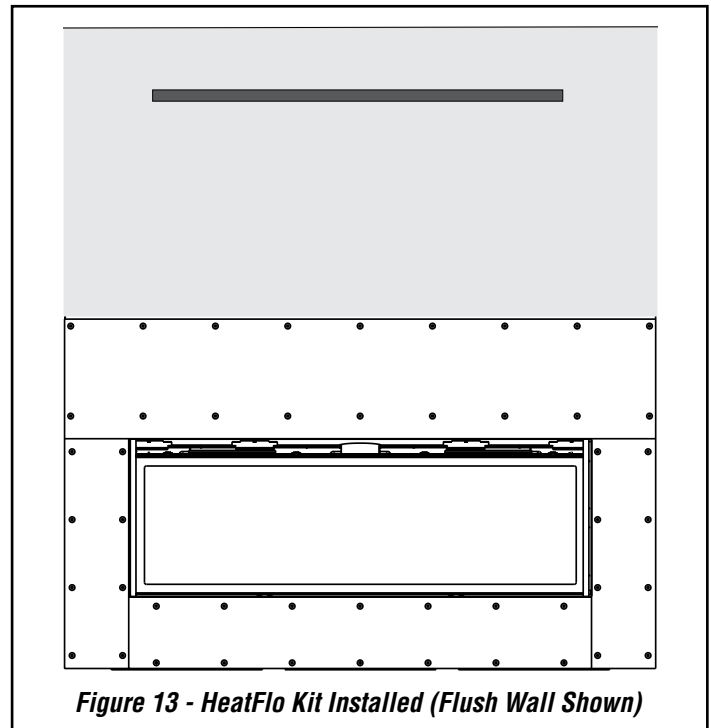

Figure 13 - HeatFlo Kit Installed (Flush Wall Shown)
1. Using 1" self drill bugle drywall screws (supplied), install non-combustible fireboard at bottom, sides and top of fireplace face (**See Figure 13**).